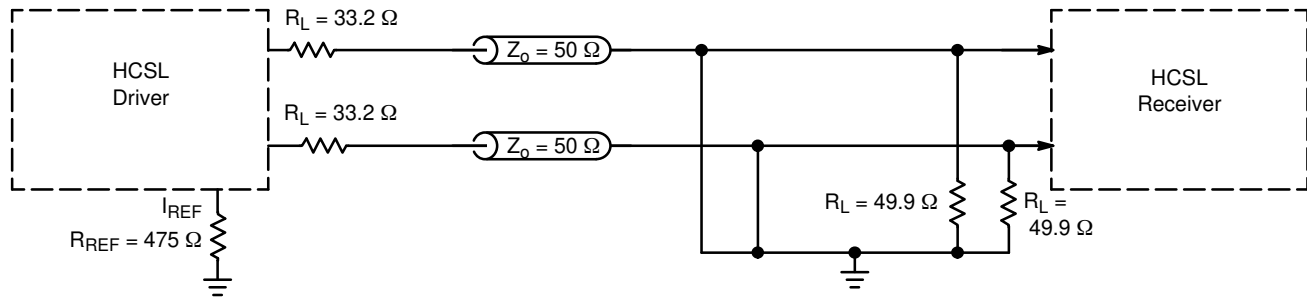

Figure 3. Typical Termination for Output Driver and Device Evaluation
5. Measurement taken with outputs terminated with R_S = 33.2 Ω, R_L = 49.9 Ω, with load capacitance of 2 pF and current biasing resistor, R_{REF} from I_{REF} (Pin 9) to GND of 475 Ω. See Figure 3.
7. Measurement taken from differential output on single-ended channel terminated with $R_S = 33.2\ \Omega$, $R_L = 49.9\ \Omega$, with load capacitance of 2 pF and current biasing resistor, R_{REF} , from I_{REF} (Pin 9) to GND of 475 Ω . See Figures 3 and 4.